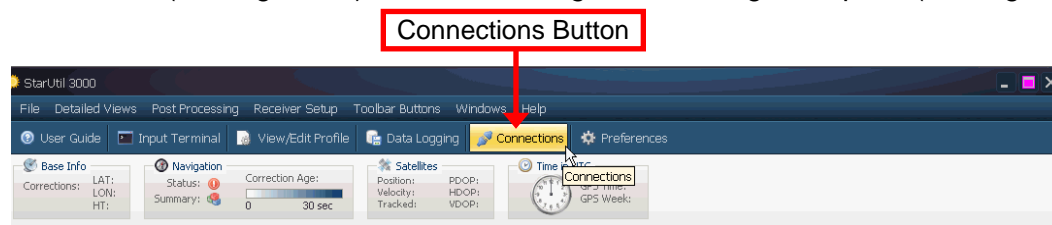
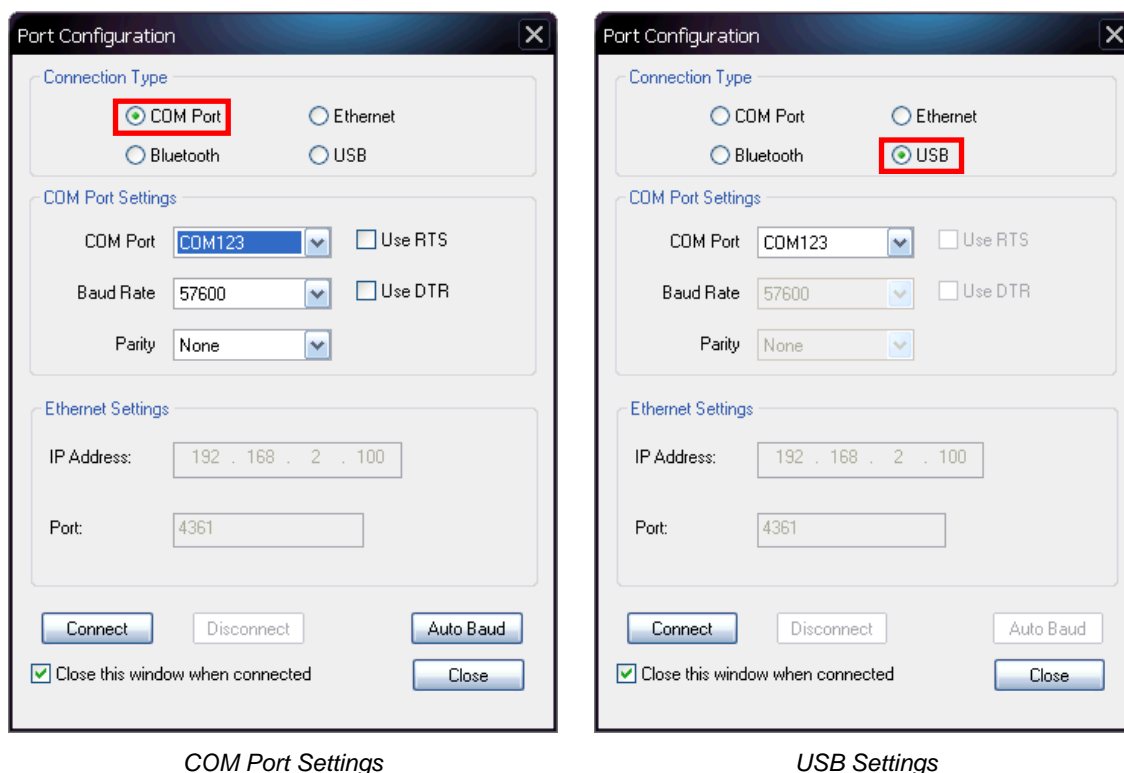

Figure 29: Connections Button
Figure 30: Port Configuration
1. Click the *Connections* button to establish communications between the PC and the SF-3040 or the SF-3050 (see Figure 29). The *Port Configuration* dialog box opens (see Figure 30).
Refer to Figure 30 for the steps below: